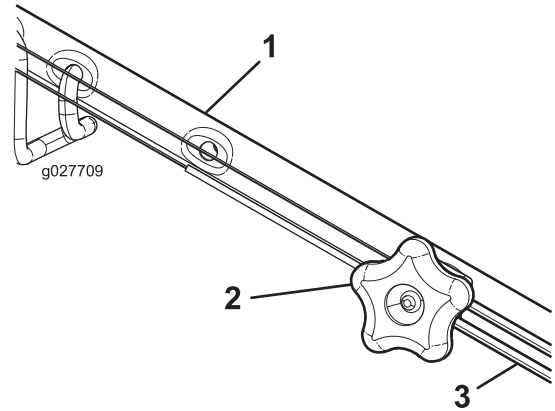

Figure 40
1. Turn the adjustment knob counterclockwise to loosen the cable adjustment (Figure 40).
2. Adjust the tension on the cable (Figure 40) by pulling it back or pushing it forward and holding that position.